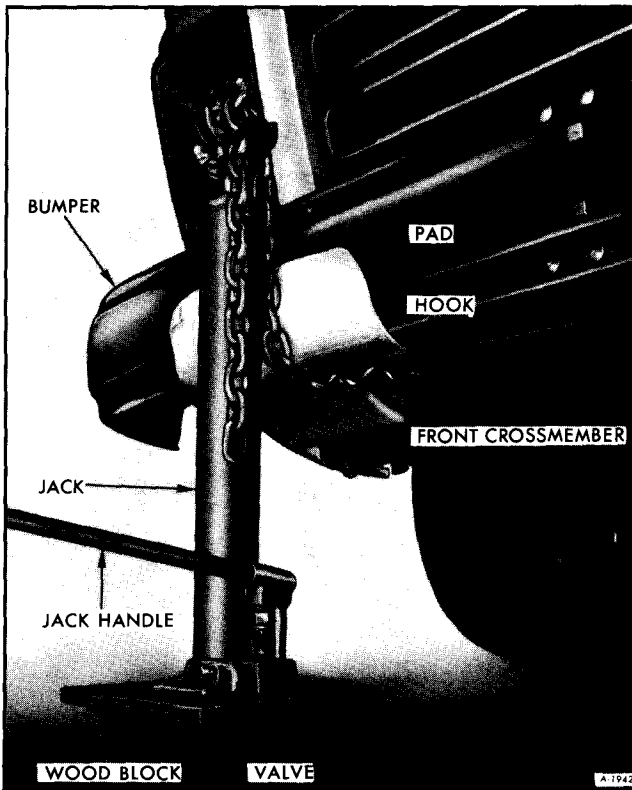

Figure 7—Jacking at Front of Vehicle
- **JACKING AT FRONT**—Place hydraulic jack on wood block near energy absorbing front bumper bracket. Place hook at flange of front cross-member. Pass chain under bumper and adjust chain length to snug fit on fork on top of jack (See figure 7).